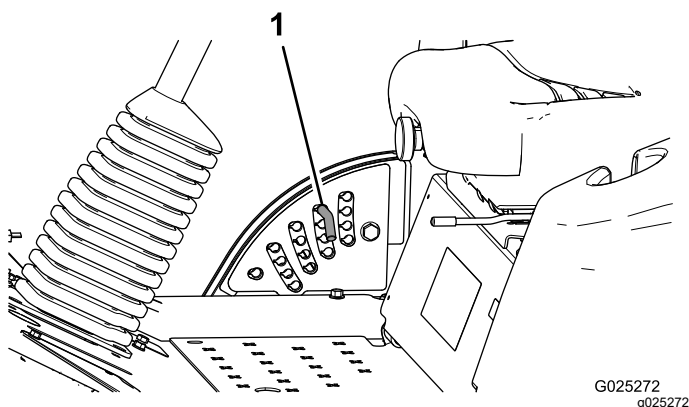

Figure 2
2. To adjust, rotate the stop pin until the nub on it lines up with the slots in the holes in the height-of-cut bracket and remove it (Figure 2).
3. Select a hole in the height-of-cut bracket corresponding to the height-of-cut desired, insert the pin, and rotate it down to lock it in place (Figure 2).
Note: There are 4 rows of hole positions (Figure 2). The top row gives you the height of cut listed above the pin. The second row down gives you the height listed plus 6 mm (1/4 inch). The third row down gives you the height listed plus 12 mm (1/2 inch). The bottom row gives you the height listed plus 18 mm (3/4 inch). For the 127 mm (5